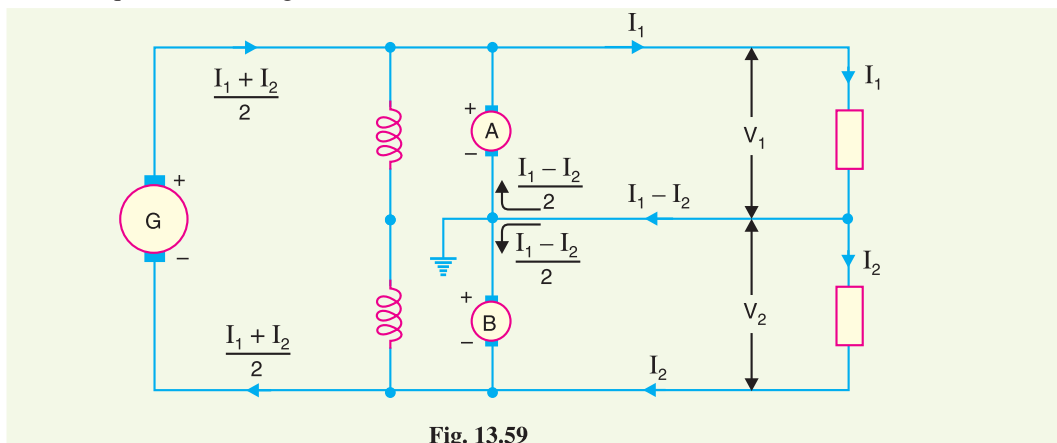

Fig. 13.59
**Circuit details.** Fig. 13.59 shows the use of a balancer set in a 3-wire d.c. system. The balancer consists of two identical shunt wound machines  $A$  and  $B$  coupled mechanically and having their armature and field circuits connected in series across the outers. The neutral wire is connected to the junction of the armatures as shown. The circuit arrangement has two obvious advantages. Firstly, only one generator ( $G$ ) is required which results in a great saving in cost. Secondly, the balancer set tends to equalise the voltages on the two sides of the neutral.
For the condition shown in Fig. 13.59, the machine *B* acts as a motor and machine *A* as a generator. The out of balance current  $I_1 - I_2$  flows through the middle wire towards the balancers. Assuming the internal losses of the two machines to be negligible, then armature currents will be equal. Hence, one-half of the current in neutral *i.e.*  $(I_1 - I_2)/2$  will flow through each machine as shown.